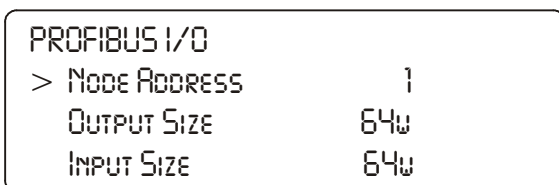

FIG. 153: PROFIBUS I/O MENU/SELECTING THE NODE ADDRESS
- Step 5. Press the Enter button. The Profibus I/O Menu appears. (See Fig. 153)